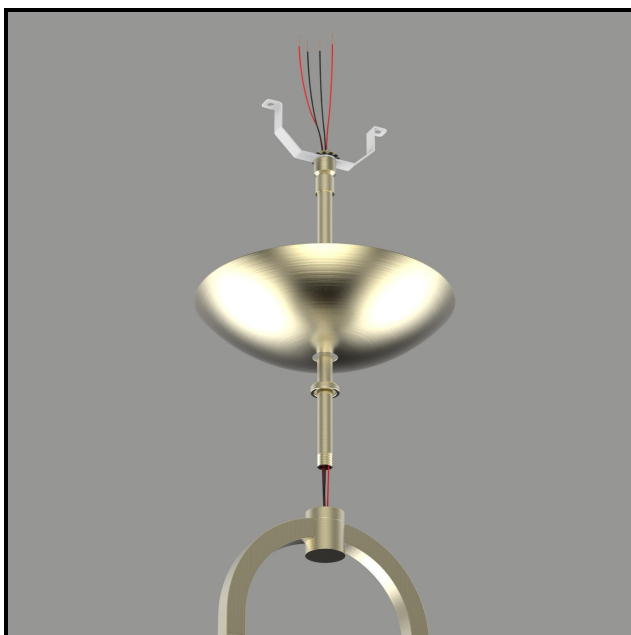

Figure 8
- Prior to assembling stem onto main body, threaded ring from Figure 2 must be under the canopy, as shown. (Figure 8)